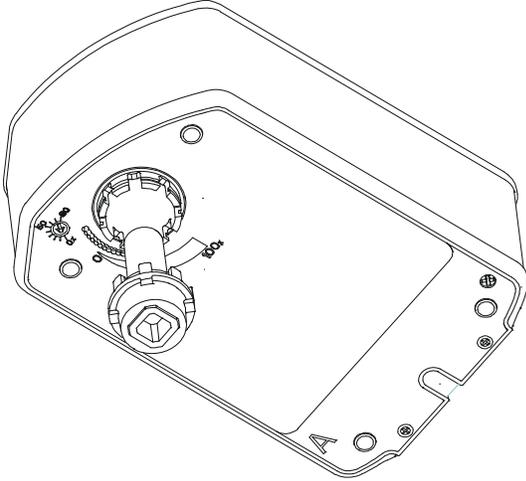

Figure 12: Inserting the Drive
4. Insert the drive shaft into Side A (Figure 12).